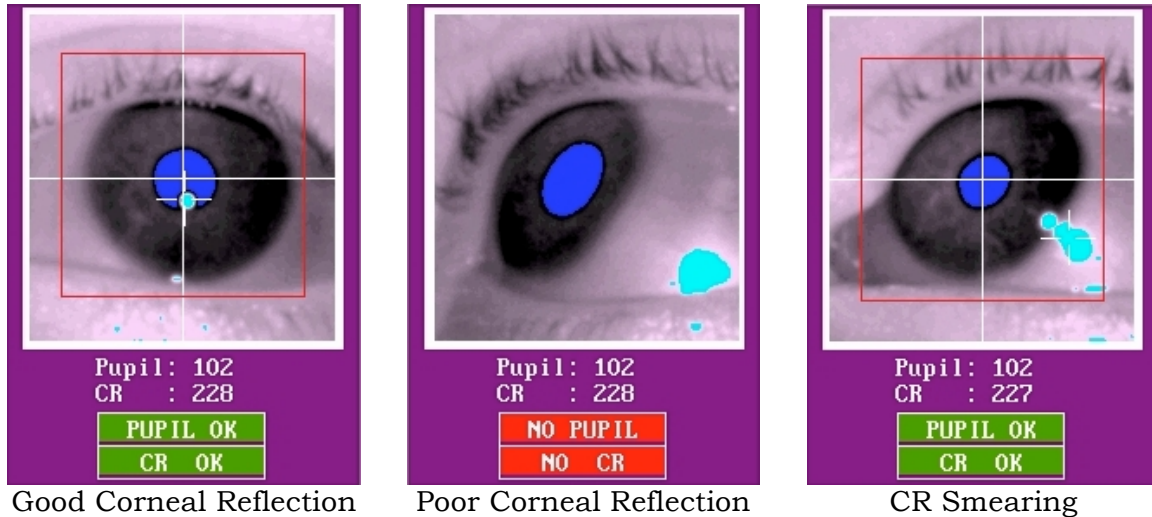

Figure 3-18: Corneal Reflection
- Have the participant slowly look along the edges of the display surface and ensure that the corneal reflection does not get lost. If the CR does get lost, a “NO CR” error message will be displayed below the zoomed eye image (see the middle panel of Figure 3-18).
- Another potential problem to look for is CR smearing, which is typically seen when the participant looks at the top-left or top-right corner of the display (see the right panel in Figure 3-18). This is an indication that the viewing angle is too large for the setup. If you see this, try raising the desktop mount and/or increasing the view distance.